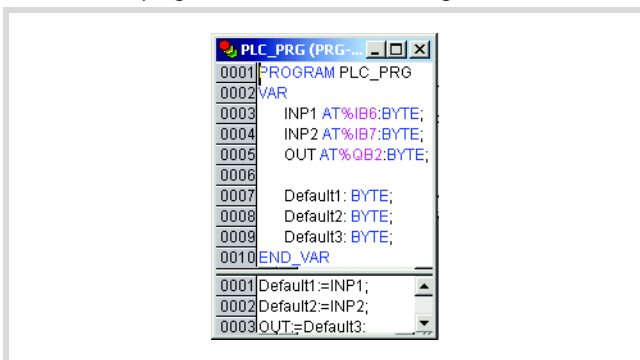

Figure 87: User program for XC200
► Create the program in accordance with Figure 87.